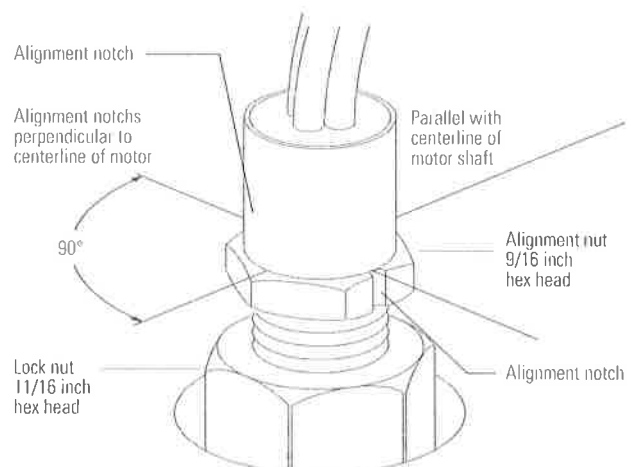

Figure 22
6. 6 Maintain the speed sensor body alignment (Figure 22), and tighten the lock nut to 8,5-14 Nm [75-125 lb-in.] (torque values are for clean dry threads).
7. Check the speed sensor body for correct alignment (Figure 22), reinstall the sensor if it is not correct.